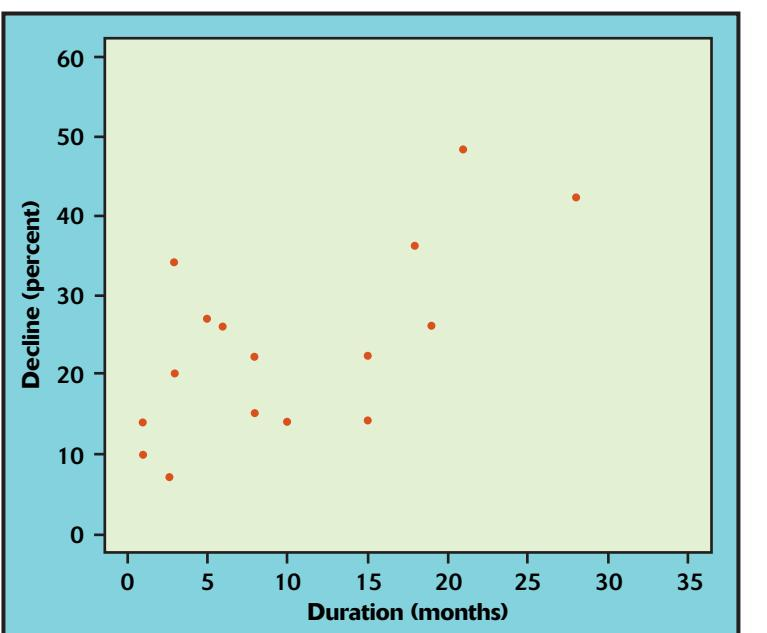

FIGURE 2.6 Scatterplot of percent decline versus duration in months of the bear markets in Table 1.5, for Exercise 2.9.
- 2.9 Size and length of bear markets. Are longer bear markets associated with greater market declines? Figure 2.6 is a scatterplot of the data from